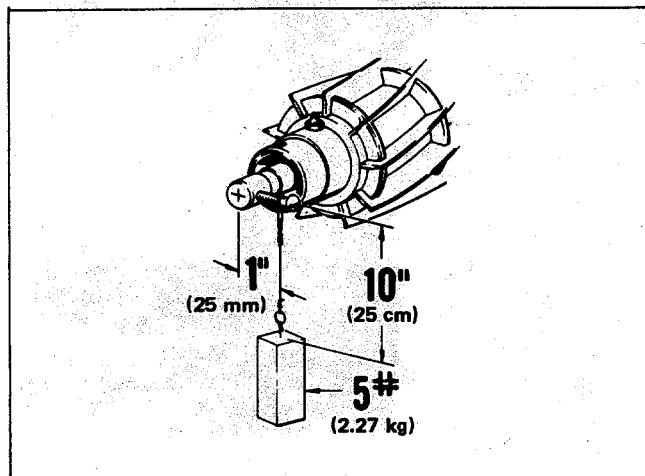

Figure 48
A. Install a 1/4-20 screw into hole in end of reel shaft (Fig. 48).
- B. Support the reel and hang a 5 lb (2.27 kg) weight 1 in. (25 mm) away from center of reel shaft and 10 in. (25 cm) down (Fig. 48).